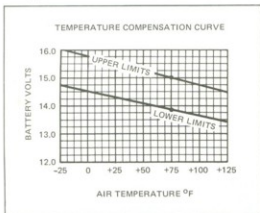

Figure 8-16. Regulating Voltage
2. Adjust the load rheostat to 5-6 amperes output. The voltage readings should conform to the values given by the curves shown in Figure 8-16 at the temperature measured when the test is performed.